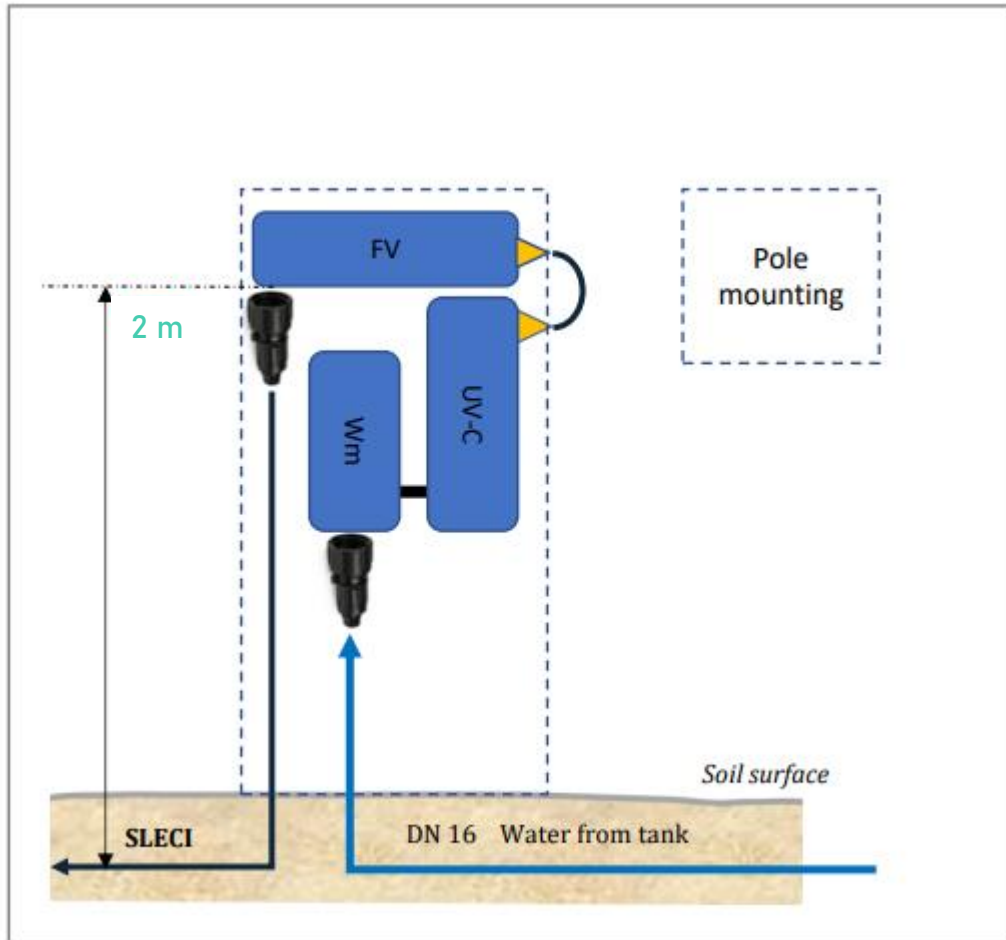

Figure 3-7a: VCA schematics for water supply by water tank
The VCA is the interface between irrigation water supply line and the main irrigation line. It contains a digital water meter (Wm), a Float valve (FV) (that must be adjusted in the appropriate height above average depth level of the SLECI line) and optionally a UV-C filter (in case of algae pollution of the irrigation water) (Fig. 3-7a).